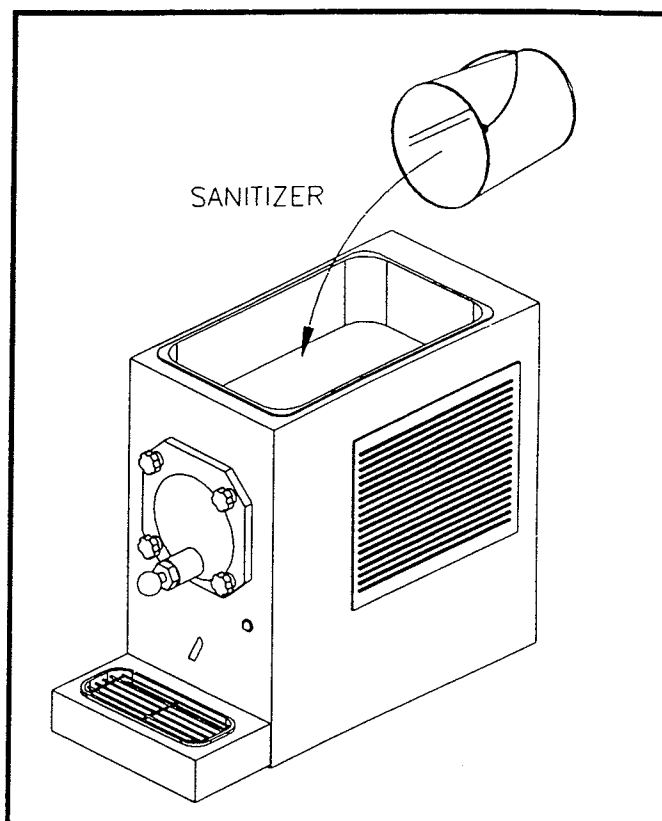

Figure 14
- A. Prepare 2 gallons (7.5 liters) of sanitizing solution following manufacturer's instructions and pour into hopper (Fig. 14).